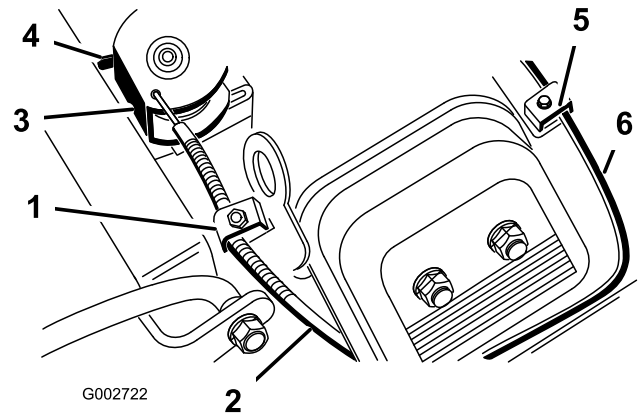

Figure 37
2. Loosen the cable clamp screw securing the cable to the engine (Figure 37).
4. Pull firmly on the throttle cable until the back of the swivel contacts the stop (Figure 37).
4. Pull firmly on the choke cable (Figure 37) until the choke butterfly is completely closed; then tighten the cable clamp screw.